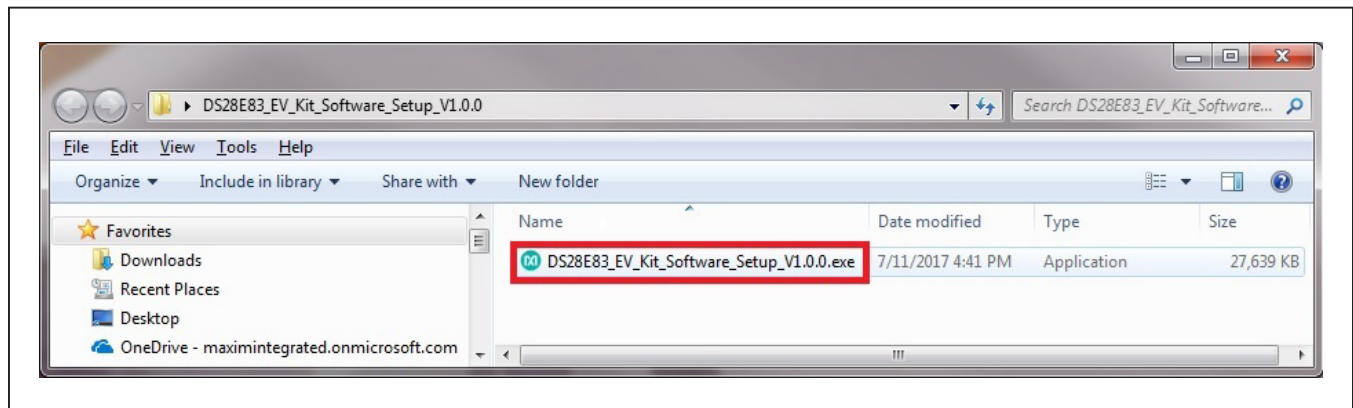

Figure 1. File Viewer
- 2) In a file viewer (Figure 1), double click on **DS28E83_EV_Kit_Software_Setup_V1.0.0.exe** to begin the installation.